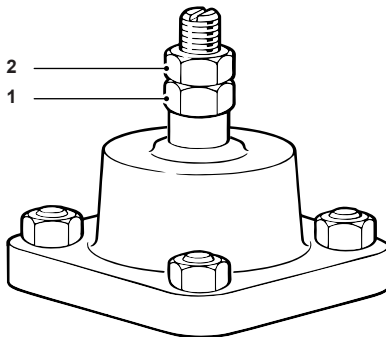

Fig. 10
Using a 16 mm A/F spanner hold the adjustment nut (1) and slacken the lock nut (2). Unscrew and remove both these nuts completely from the rod, invert and replace them as shown in Figure 10.